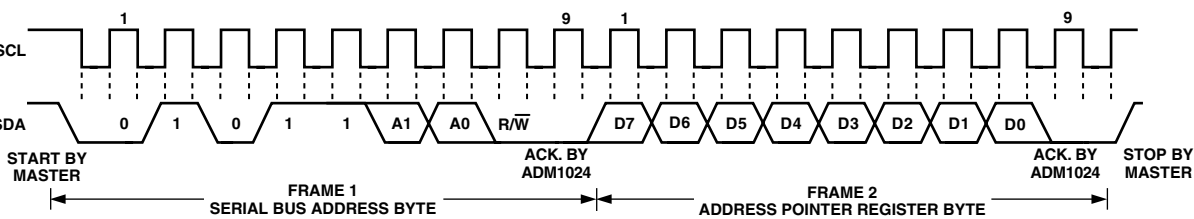

Figure 2b. Writing to the Address Pointer Register Only
1. If the ADM1024's Address Pointer Register value is unknown or not the desired value, it is first necessary to set it to the correct value before data can be read from the desired data register. This is done by performing a write to the ADM1024 as before, but only the data byte containing the register address is sent, as data is not to be written to the register. This is shown in Figure 2b.
2. If the Address Pointer Register is known to be already at the desired address, data can be read from the corresponding data register without first writing to the Address Pointer Register, so Figure 2b can be omitted.